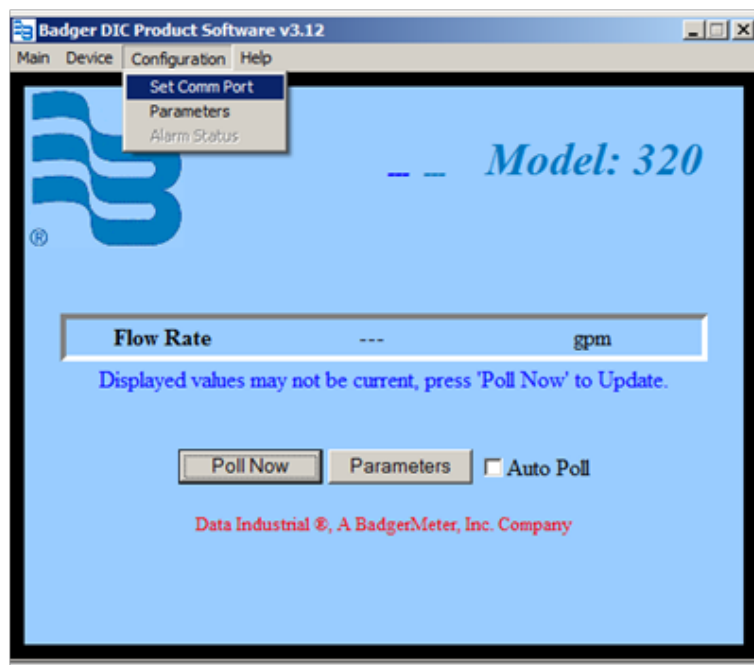

Figure 10: Select “Set Comm Port”
4. Select the **Set Comm Port** menu option, from the *Configuration* menu, per Figure 10.
7. Select the appropriate device from the *Device* menu in Figure 10.
8. Set the appropriate parameters from the *Configuration* menu in Figure 10 or click the **Parameters** button.